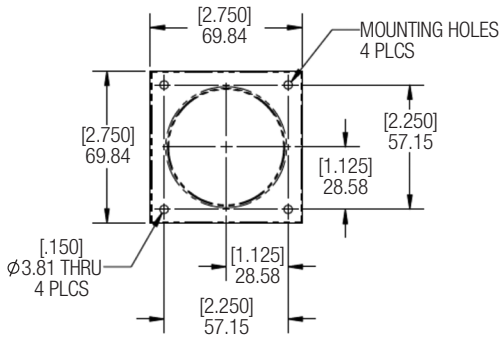

Figure 7
This Helios™ charger requires (4) #6 x 1-1/4" Phillips round-head wood screws (not included) to be inserted into the provided holes to hold the charger in place, assuming the work surface is 3/4 inch thick (see Figures 7 and 9). Special consideration for the screw size must be taken by the installer; the screw length should not pierce through the top surface of the work surface and may differ from work surface to work surface.